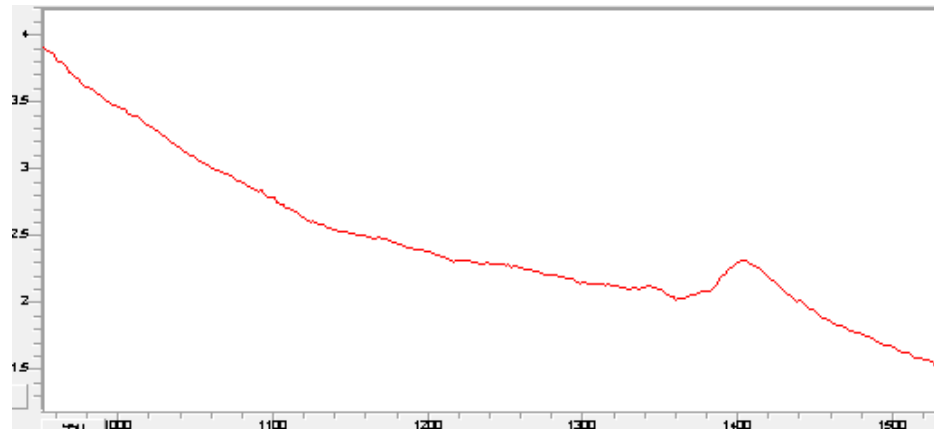

Figure 43. Bad Quality Scan (or no scan at all)
- c. If your scan looks like below image in Figure 43, or if no scan is captured, then adjustments need to be made to the NIR and the three set screws that control the NIR's position or the timer for the NIR to start in the plot. See the following pages. Reference the Adjustments section of this manual for the timer adjustment. For NIR position adjustment, start with small adjustments, lower the top of the NIR deeper into the chute to make greater lens contact with the silage. The front of the lens should be flush or indented the width of a dime into the chute. The rear of the lens should be indented approximately .040" (1mm) further into the chute than the leading edge. See next section for more information.